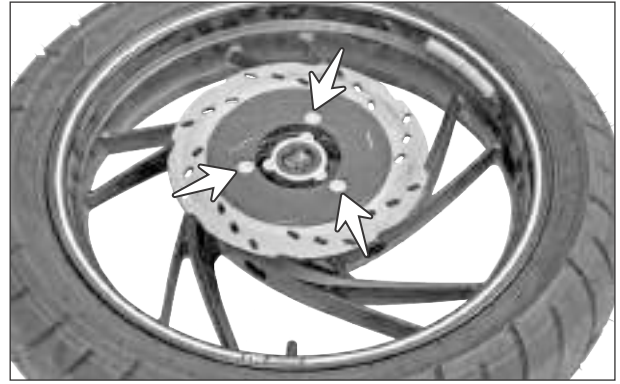

Fig. 6.83
- Remove the screw special (M8 - 3 nos) from the disc plate mounting and take out disc plate from the alloy wheel rear. (Fig. 6.83)